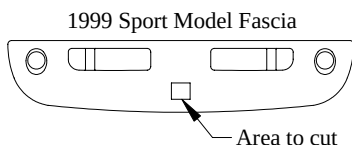

Figure 1
①	Qty. (2)	Hex Bolt, M12 x 1.75 x 45 CL10.9	④	Qty. (2)	Nut, M12 x 1.75
②	Qty. (4)	Conical Washer, 1/2"	⑤	Qty. (4)	Hex Bolt, M10 x 1.5 x 35 CL10.9
③	Qty. (2)	Spacer, 2" x 1-1/2" x 1/4"	⑥	Qty. (4)	Conical Washer, 3/8"
* **NOTE:** "Sport Model" vehicles require extensive fascia cut. See Figure 1.